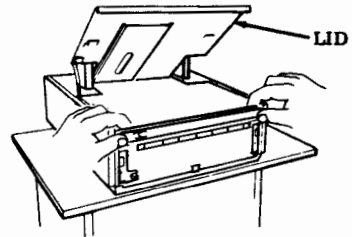

Fig. 21
Step 3 — Insert fingers as shown and lift. Then pull module forward until it engages the stop (Fig. 21).